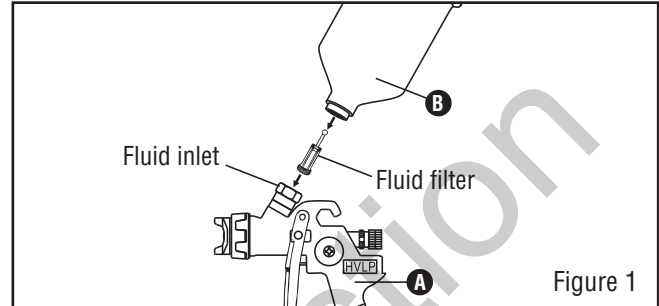

Figure 1
1. Take out spray gun (A) and put on paint cup (B) with hand. Make sure that the paint cup (B) is installed with spray gun (A) tightly and correctly. (See Figure 1)
NOTE Apply the fluid filter to the fluid inlet of the spray gun. (See Figure 1)